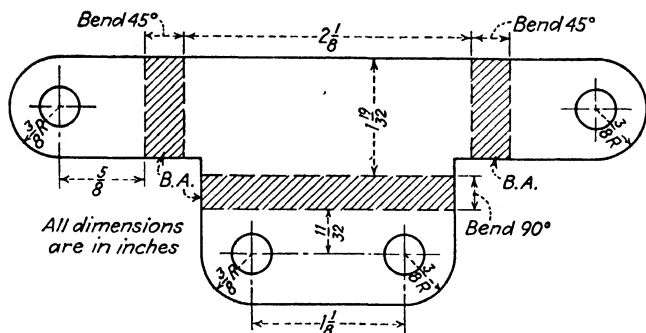

Fig. 258.
Figure 258 shows the diagram of a 0.125-in. low-carbon steel fitting.
2. Find the tensile strength of the fitting in Fig. 258 if the diameter of all holes is  $\frac{1}{4}$  in., (a) each end; (b) at the side having two holes. Use the table of safe working strengths page 169.
3. Make a full-scale diagram of the fitting (Fig. 258), including the bend allowance.